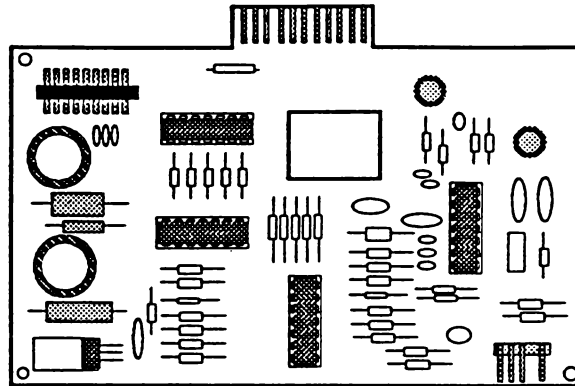

FIGURE 2
2. Replace the Apple III analog board with a known-good Apple II analog board (see Figure 2).